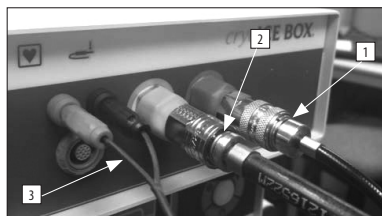

Figure 2: PROBE Connections to ACM
1. Connect PROBE to the ACM. See Figure 2. Table 2 provides a list of the connections to the ACM.